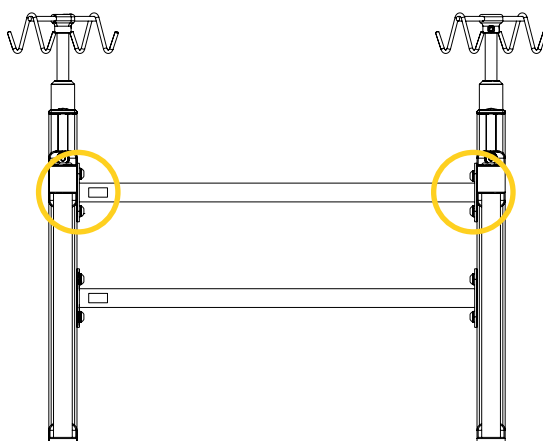

Figure 38: Horizontal rail screws
1. Ensure to have applied all four (4) brakes on the transport cart.
2. Loosen the four (4) screws of the horizontal rail by turning them a quarter of a turn counterclockwise, using an Allen key 3/16 in. (Figure 38).